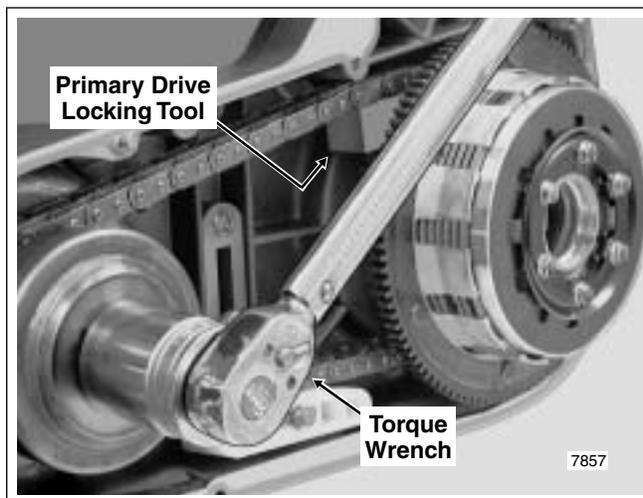

Figure 6-30. Place Primary Drive Locking Tool and Torque Engine Compensating Sprocket Nut
- a. With the flat side against the upper strand of the primary chain, insert stepped side of tool into teeth of clutch sprocket. Verify that adjuster shoe of chain tensioner assembly **rests flat on casting** of primary chaincase, and then using torque wrench and 1-1/2 inch socket, tighten engine compensating sprocket nut to 75 ft-lbs (101.7 Nm). See Figure 6-30.